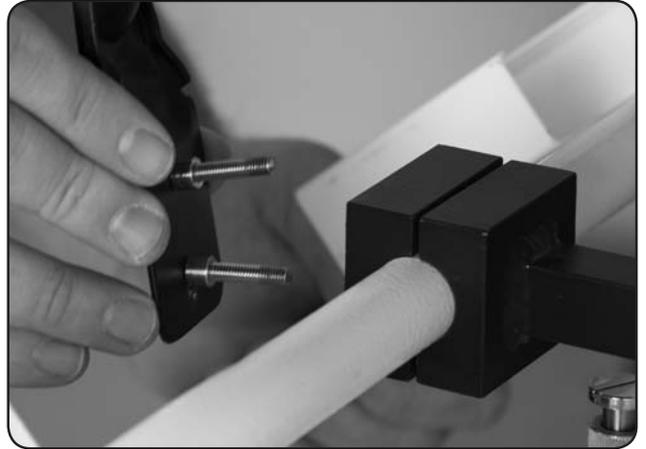

Fig. 8-2
Step 8-2: Place the 5Mx30mm SHBC through the Metal LCD stand and place the M5 Metal Spacers onto the bolts for the Front Handle Bar fixture as shown in **Fig. 8-2.**